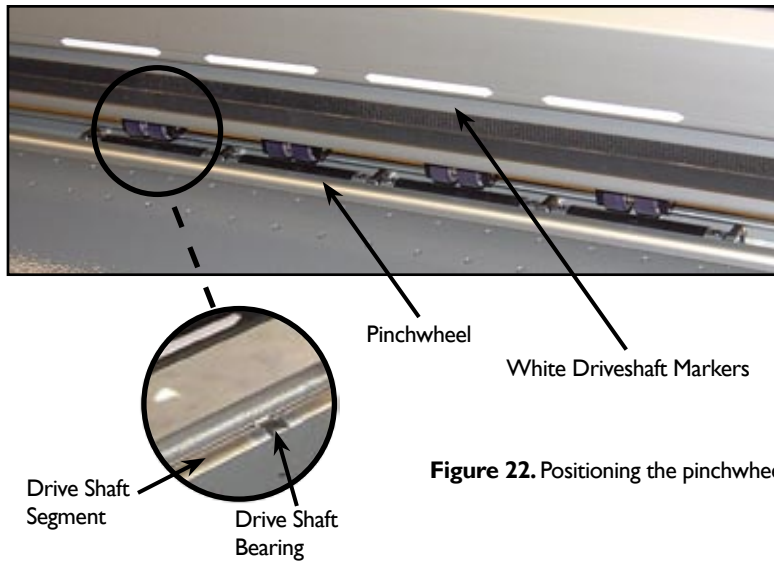

Figure 22. Positioning the pinchwheels.
4. Move the pinchwheels into their proper positions over a tread and under the white markers on the traverse rail. (*See Figure 22.*) **Do not place pinchwheels over drive shaft bearings.**